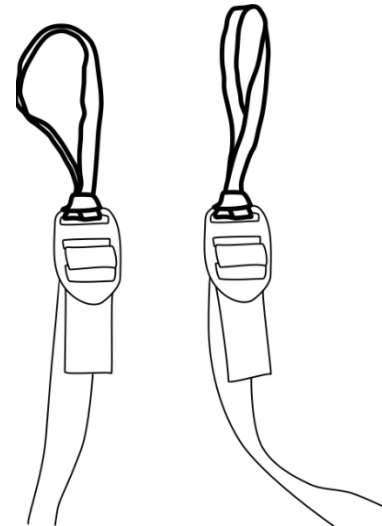

Figure 6
2. Stick one end of the elastic band through the loop at the other end and pull tight (Fig. 6).